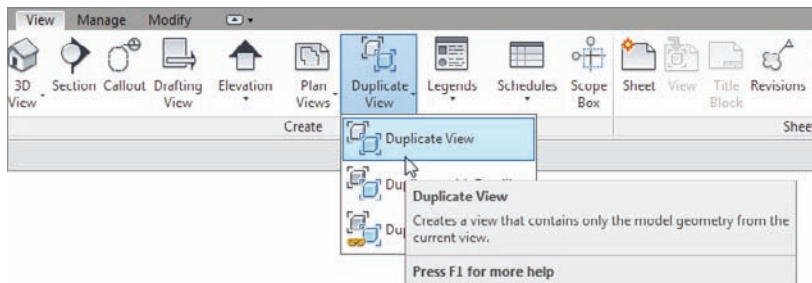

FIGURE 21.3 Duplicating the view
6. Make sure you're in Level 1. On the View tab, click Duplicate View > Duplicate View, as shown in Figure 21.3.